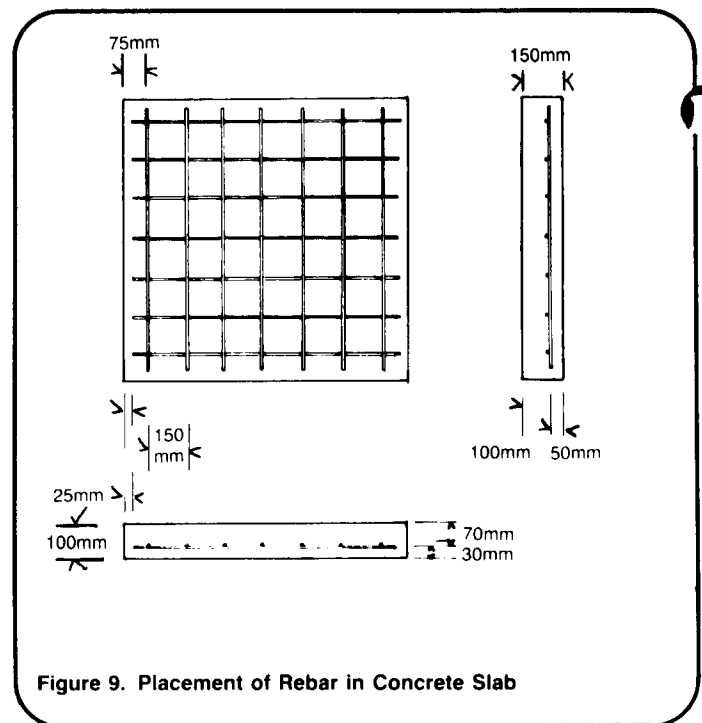

Figure 9. Placement of Rebar in Concrete Slab
4. Prepare the reinforcing rods in a grid pattern for placement in the forms for the spring box cover. Make sure there is 0.15m between the parallel bars and that the rods are securely tied together with wire. Then position the reinforcing rods in the form. See Figure 9 for an example of reinforcing rod placement in the spring box cover. Major reinforcing is not needed for the spring box walls but some minor reinforcing around the perimeter of the walls is good to prevent small cracks in the cement. Four bars tied together to form a square should be placed in the forms.